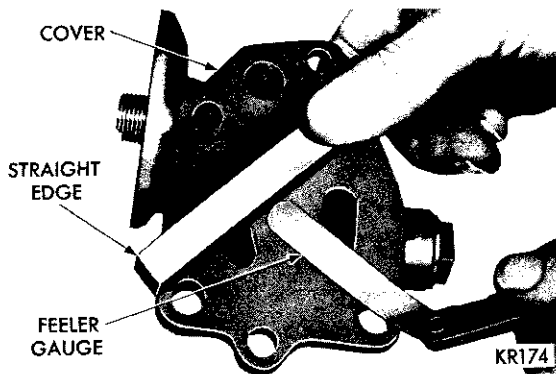

Fig. 58—Measuring Oil Pump Cover Flatness
- (1) Clean all the parts thoroughly. The mating face of the filter base (oil pump cover) should be smooth. Replace the filter base if it is scratched or grooved.
- (2) Lay a straightedge across the oil pump filter base surface (Fig. 58). If a .0015 inch feeler gauge can be inserted between the base and the straightedge, the filter base should be replaced.